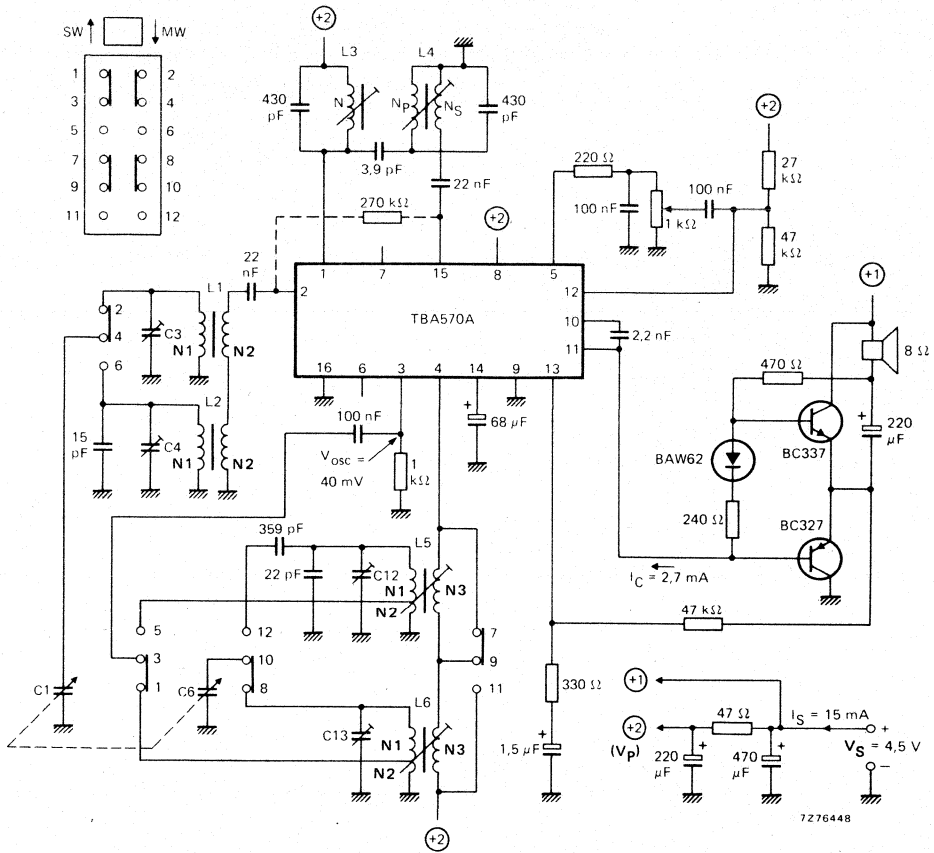

Fig. 8 Low-cost 2-band (SW-MW) a.m. portable receiver;  $P_O = 250$  mW; C1 and C6 maximum 385 pF.
**Low-cost 2-band a.m. portable receiver** (see Fig. 8)
In the circuit of Fig. 8 for L3 and L4 a similar coil to L9 in the circuit of Fig. 3 can be used with the following exceptions:
When using a resistor between pins 2 and 15 (see dashed resistor in Fig. 8), signal handling is improved.
\*\* See Fig. 8; low-cost 2-band a.m. portable receiver.